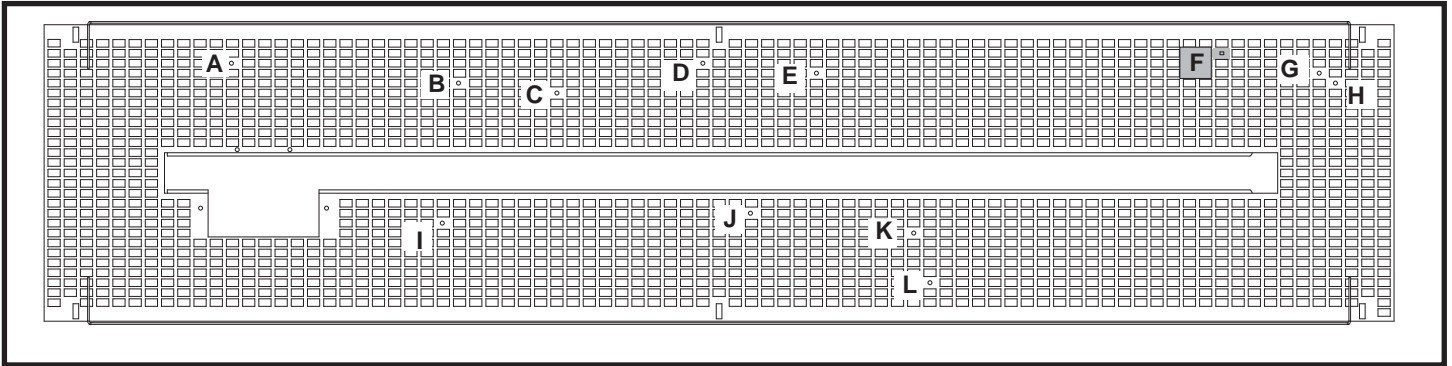

Figure 2A. PRIMO-II-48 / PRIMO-II-48ST Log Pin Placement
**Preparation:** Install log locating pins, included in hardware bag, into all locations as shown in the figures below. Extra log pins are included in manual bag. Log pins are identified alphabetically as shown below. Log pin holes are circular in shape, with the exception of a few rectangular holes, which are shaded in Figures 2A, 2B and 2C. The rectangular holes are only used for placement on See-Through (ST) models and for Single-Sided models that use black glass (BGK) refractory kits. See Figure 2.D.